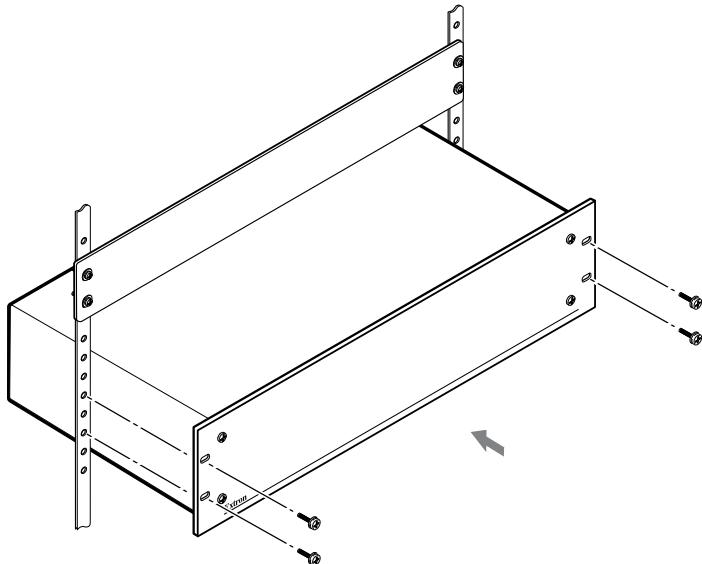

Figure 84. Installing the Switcher in a Rack
1. Insert the unit into the rack, aligning the mounting bracket holes with those in the rack (see figure 84).